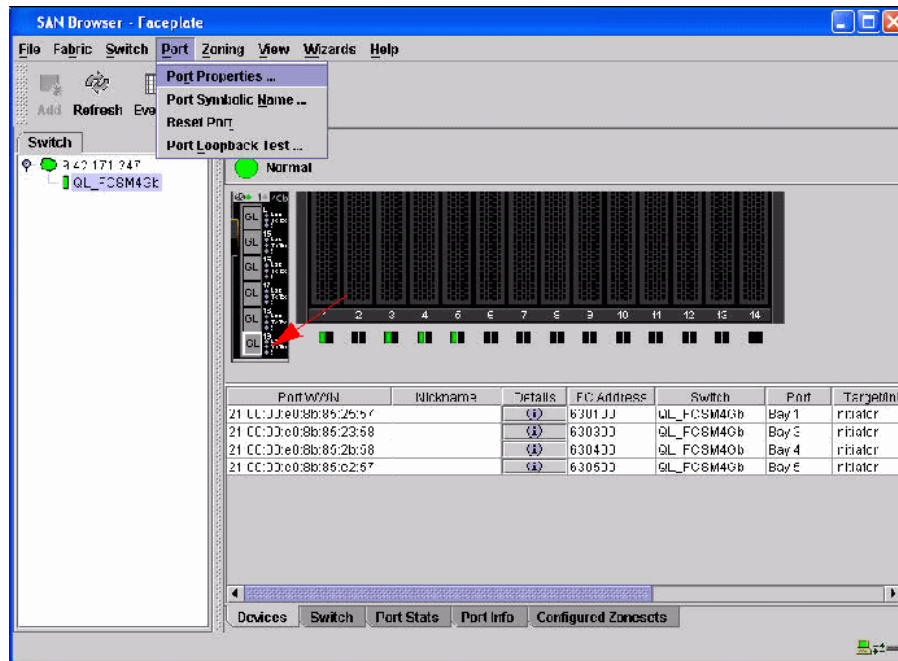

Figure 7-16 SANBrowser - Faceplate
- From the Faceplate window, select your desired E-Port. Next, select **Port** → **Port Properties** (Figure 7-16). In our example, we designated port 19.